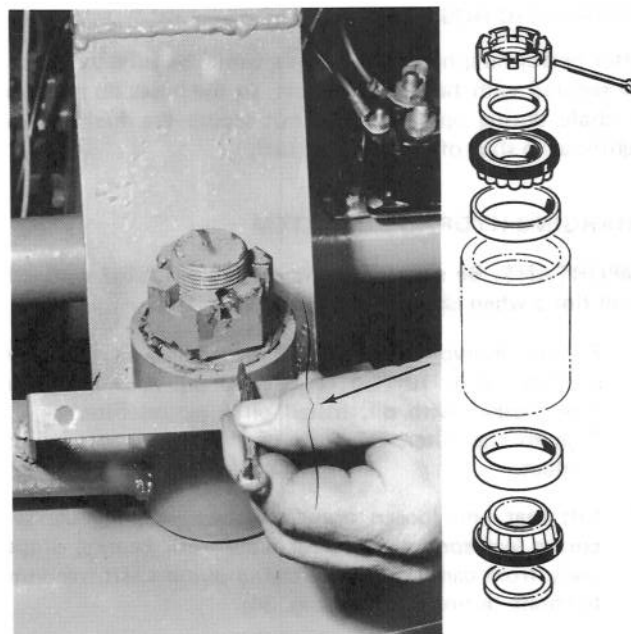

Figure 37
2. Remove the fasteners from the front shroud and raise the shroud high enough to expose the large castellated nut (Fig. 37). Block the shroud up securely.
4. Remove the cotter pin and castellated nut (Fig. 37). Support the wheel assembly so it will not drop and damage the wheel motor or hoses.
14. Tighten the nut while rotating the wheel fork until you can feel a slight drag on the fork. Be sure the bearings are seated. Secure the nut with the cotter pin. If the notches do not line up with the hole in the shaft, back off the nut to the closest notch (Fig. 37).